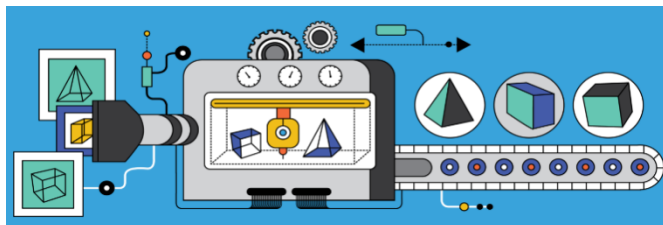

Fig. 1.20: Additive Manufacturing
8.Additive Manufacturing – 3D Printing in electronics manufacturing eliminates the need for flat circuit boards. It enables new innovative designs and shapes that cannot be produced through conventional means. 3D printers also fabricate electronic components as a single, continuous part, effectively creating fully functional electronics that require little or no assembly. (Figure 1.20) Consequently, the implementation of this electronics manufacturing trend speeds up prototyping, offers mass customization, and decentralizes parts production.